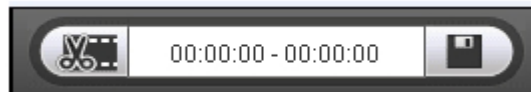

Figure 3-6
Step 5. Click on Save button to save file cut to path in Ch 5.1.2.5. See Figure 3-6.